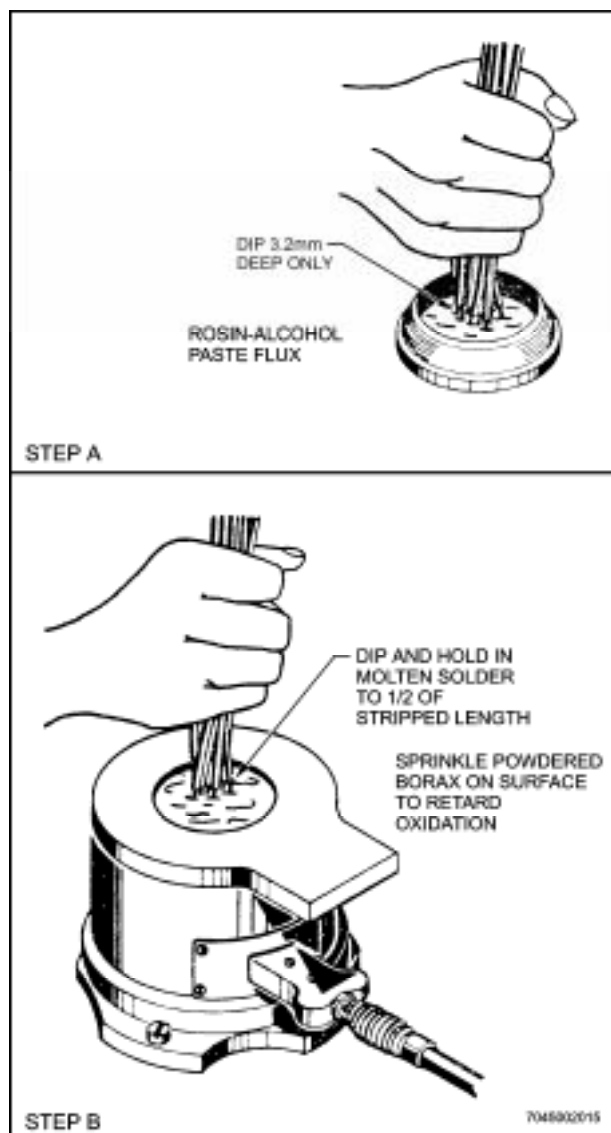

Figure 3-4 Dip-Tinning in Solder Pot
18. Dip-tin wires smaller than No. 8 about eight or ten at a time. Dip-tin wires size No. 8 and larger individually. (See Figure 3-4).